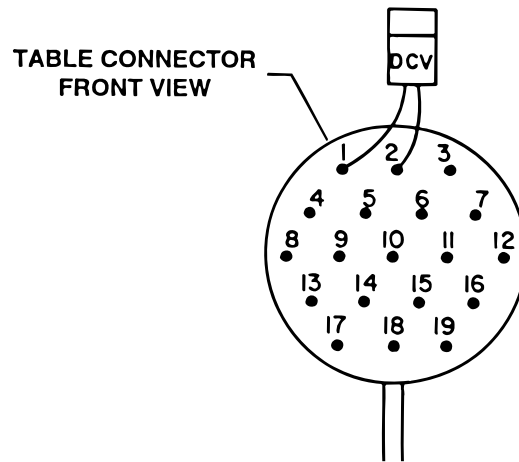

Figure 5-10. Front View Table Connector
3. Use a DC voltmeter 10V scale and measure the following pins located in the 19 pin table socket connector. See figure 5-10.